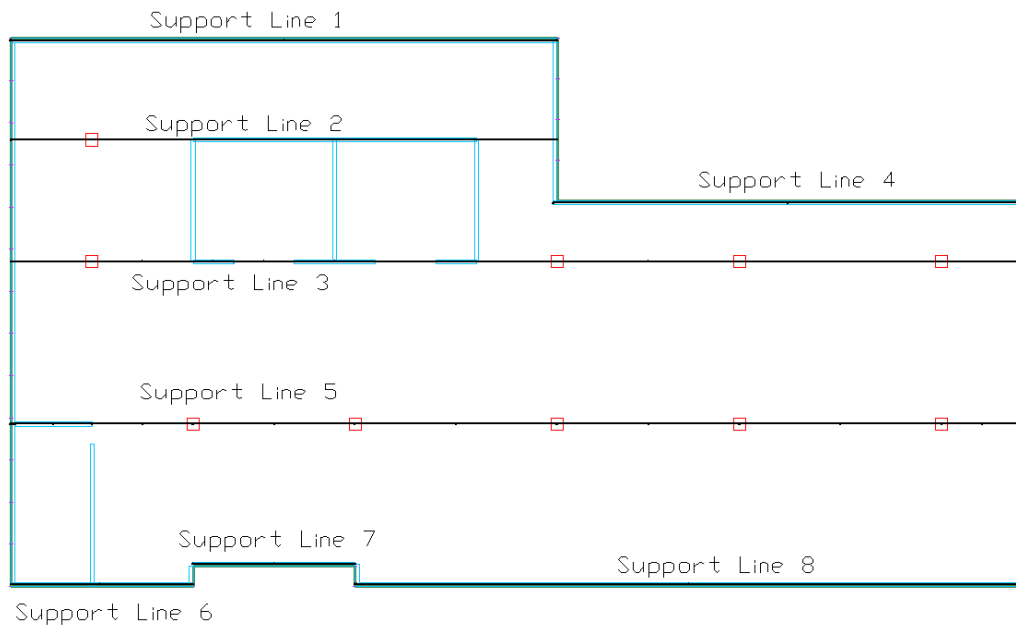

Figure 6.7-2 - Support Lines in X-direction
- Repeat the operation to create other support lines in the X-direction. After closing the support line modeling using the **C** key on your keyboard you may start modeling your next support line. Once you have finished modeling the support lines you can press **ESC** on your keyboard to exit out of the support line modeling tool. Once you have finished entering support lines in the example model your model should look as shown in **Figure 6.7-2**